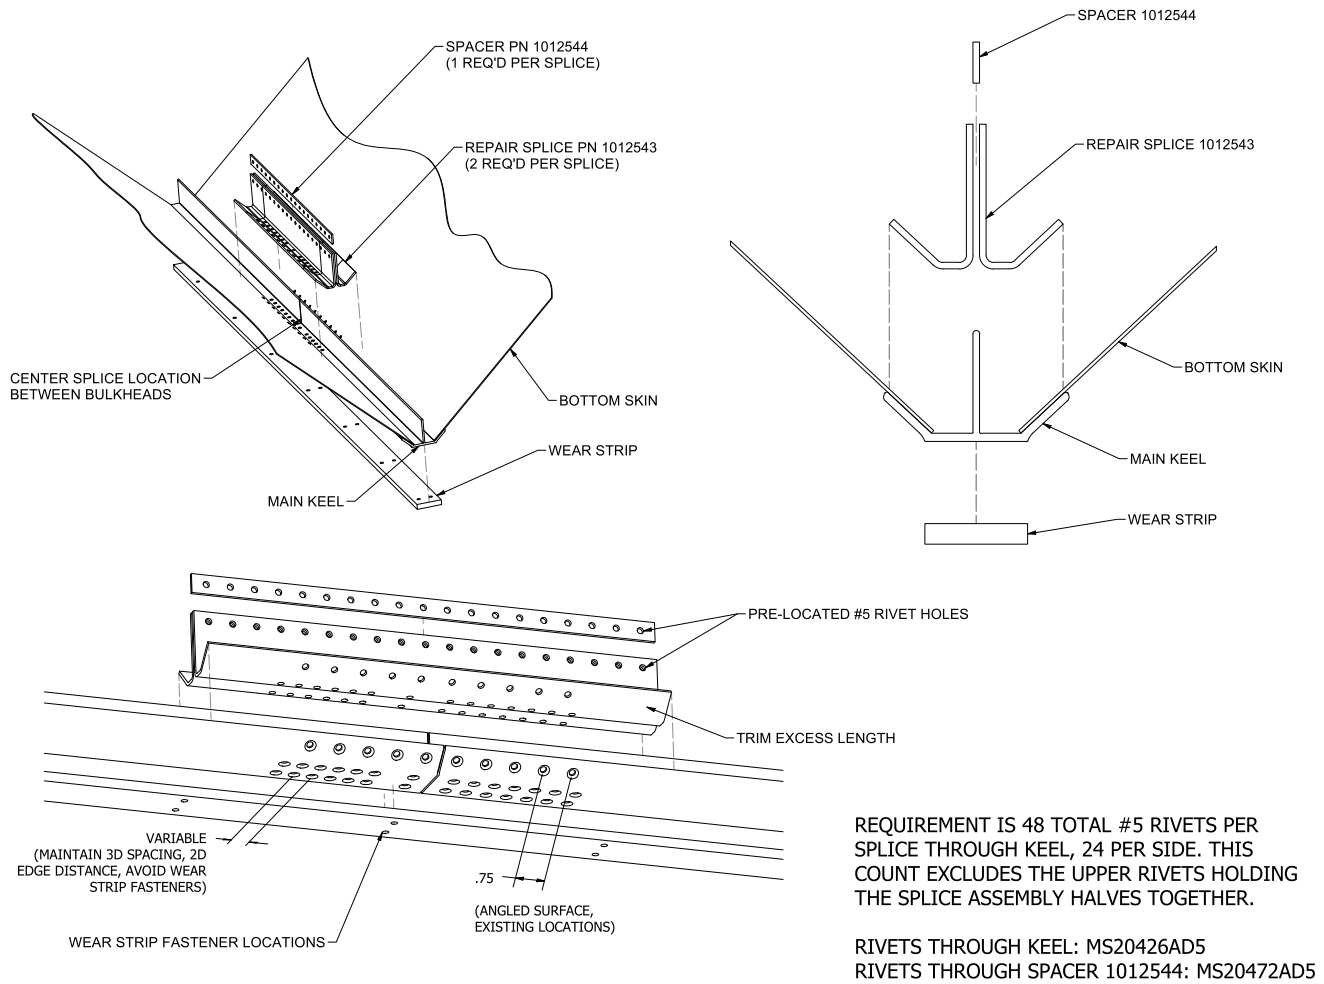

FIGURE 5.5-5: SPLICE REPAIR FOR RIVETED MAIN KEEL
The Wipline 6000/6100 series moved to an all-riveted design at SN 61500. Figure 5.5-5 depicts the parts and general requirements for a splice of the main keel. Physical accessibility will limit the practical locations for this repair, with the baggage area being the most viable. Splice and spacer pieces may be locally fabricated from 0.080" 2024 aluminum, with the formed splice pieces must be heat treated to -T3 after forming. However, given the limited space and need for precise bends, ordering parts from Wipaire is recommended. Refer to Parts Manual for float components.
1. Determine splice location with the following considerations. Refer also to figure 5.5-5:
7. Finalize the rivet pattern that passes through the bottom of the main keel and the repair splice. Review the details provided in step 4 and figure 5.5-5. Drill pattern into repair splice and then match drill into keel.